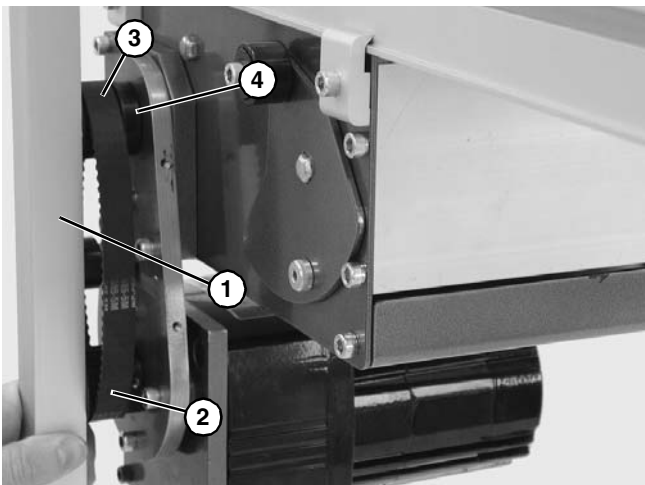

Figure 30
- Using a straight edge (**Figure 30, item 1**), align drive pulley (**Figure 30, item 2**) with driven pulley (**Figure 30, item 3**). Tighten drive pulley set screws (**Figure 30, item 4**).